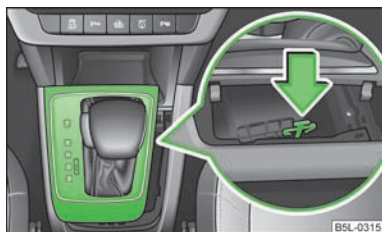

Fig. 108
- Use a finger to press the yellow plastic part in the direction of the arrow » Fig. 108.